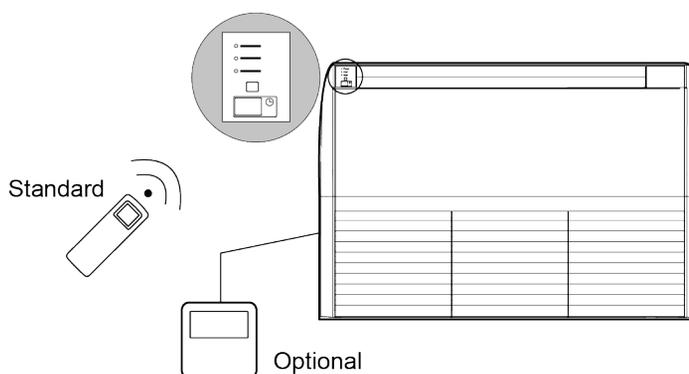

Fig.5.4.2
- (6) Both IDU and wired controller are equipped with signal receiver, and available for remote control respectively. (Fig.5.4.2)